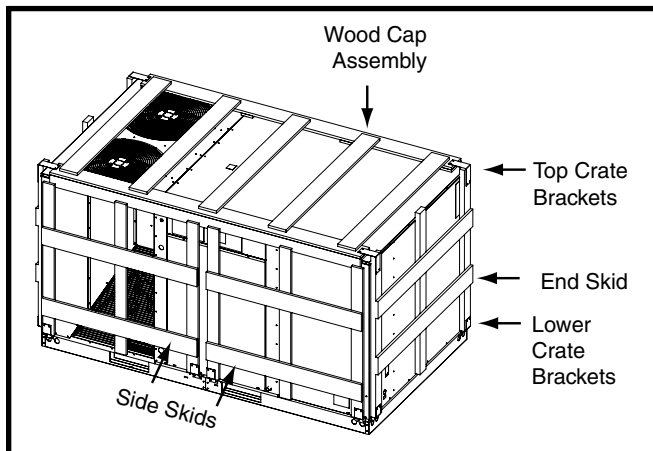

Figure 2. Bottom View
1. Remove top crate brackets and wooden cap assembly from top of unit. See Figure 2.